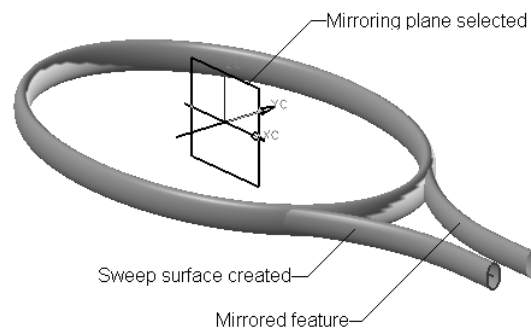

Figure 11-92 The resulting surface model after mirroring the sweep feature
1. Mirror the last surface using the XC-ZC plane as the mirror plane. The resulting surface model, after mirroring the sweep surface, is shown in Figure 11-92.